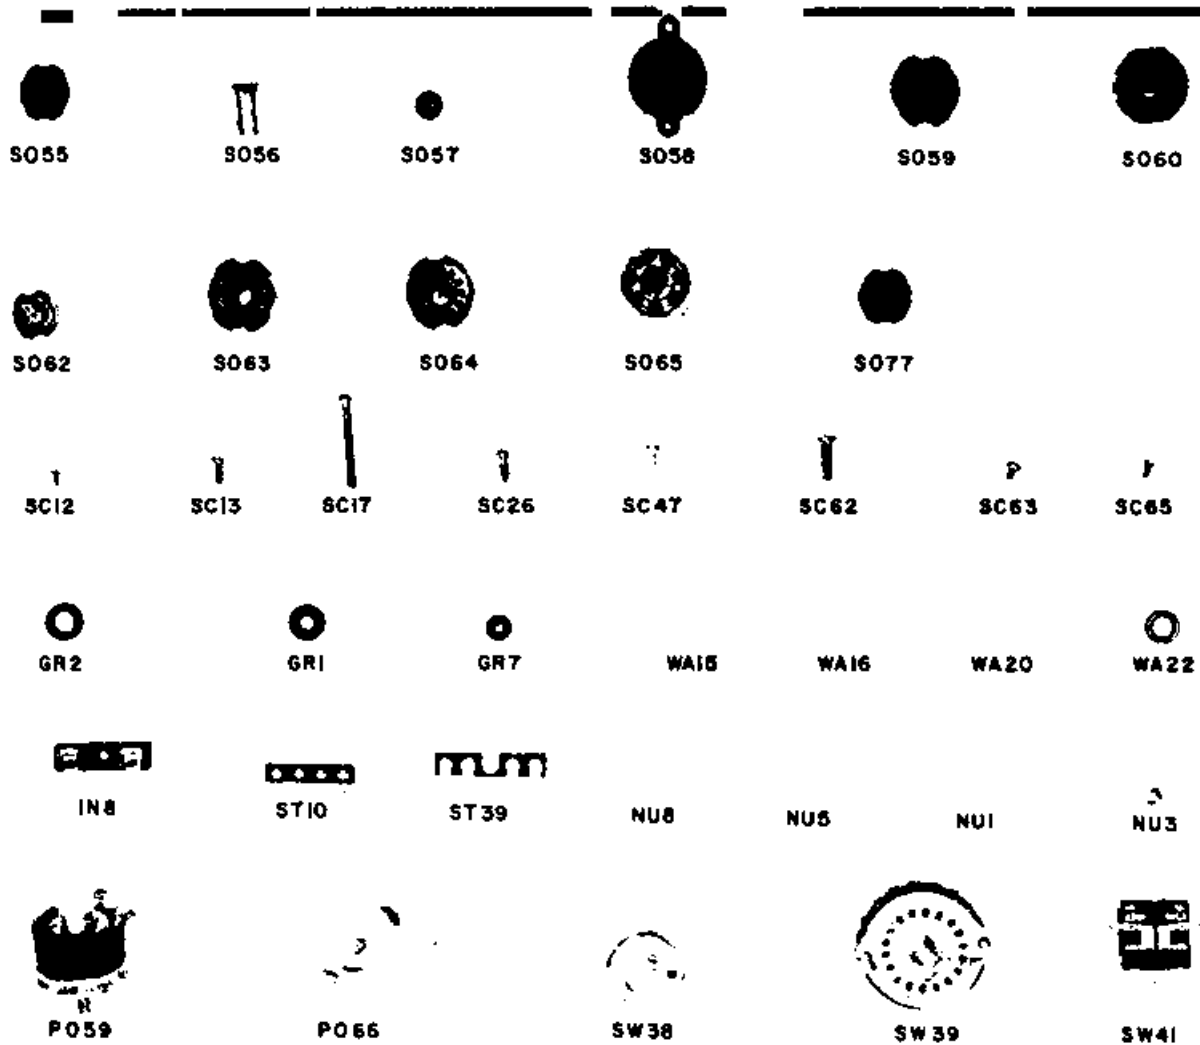

Fig. 1. Parts for CONAR Model 224 Tube Tester.
**Unpacking.** Be careful as you unpack the kit. Parts could become damaged through carelessness. Do not throw away any packing materials until you account for all parts. Check the parts against those shown in Fig. 1 (page 11) and listed thereafter. In some cases we may substitute parts of slightly different physical appearance but with the specified electrical characteristics. For example, a .047-mfd capacitor may be substituted where a .05-mfd capacitor is called for in the parts list. Such a substitution has been checked carefully and will work satisfactorily. After checking the parts against the parts list, put them where they won't be lost or damaged. If any part seems to be missing, write us at once so we can supply a replacement.